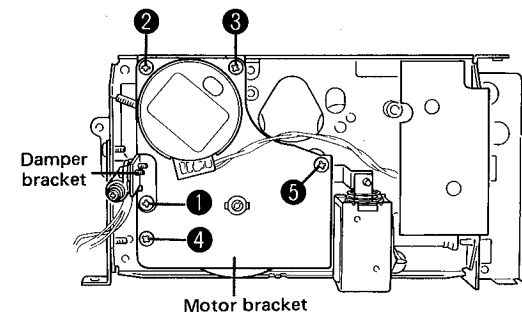

Fig. 16
1. Remove screw ① (Fig. 16) and remove the damper bracket.
2. Remove the motor bracket by removing screws ② to ⑤ in Fig. 16. Remove the main belt from the motor pulley as this time.